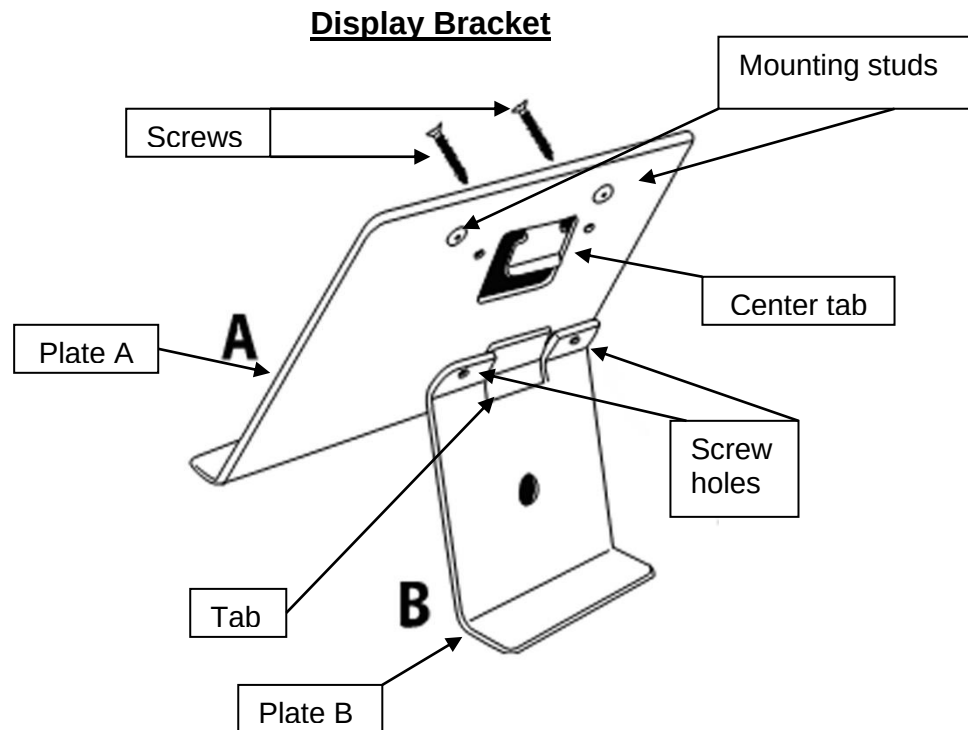

Figure 1
Assembling the 349KLX Scale (Refer to Figures 1- 4 on pages 8-11)
3. Remove the display bracket from the carton (see Figure 1 on page 8).
4. Remove the two small screws from plate B (see Figure 1 on page 8).
5. While holding plate A, slide the tab of plate B up and under the center tab on the back of plate A (see Figure 1 on page 8).
6. Align plate A and plate B, and ensure that the screw holes are lined up (see Figure 1 on page 8).
7. Insert the two small screws into the front of plate A and through the holes in plate B (see Figure 1 on page 8).
8. Using a Phillips head screwdriver, tighten the screws to secure plate A to plate B (see Figure 1 on page 8).
9. Slide the two mounting studs on the display bracket into the two mounting holes in the back of the display assembly (see Figures 1 & 4 on pages 8 & 11). The display bracket is now ready for use.